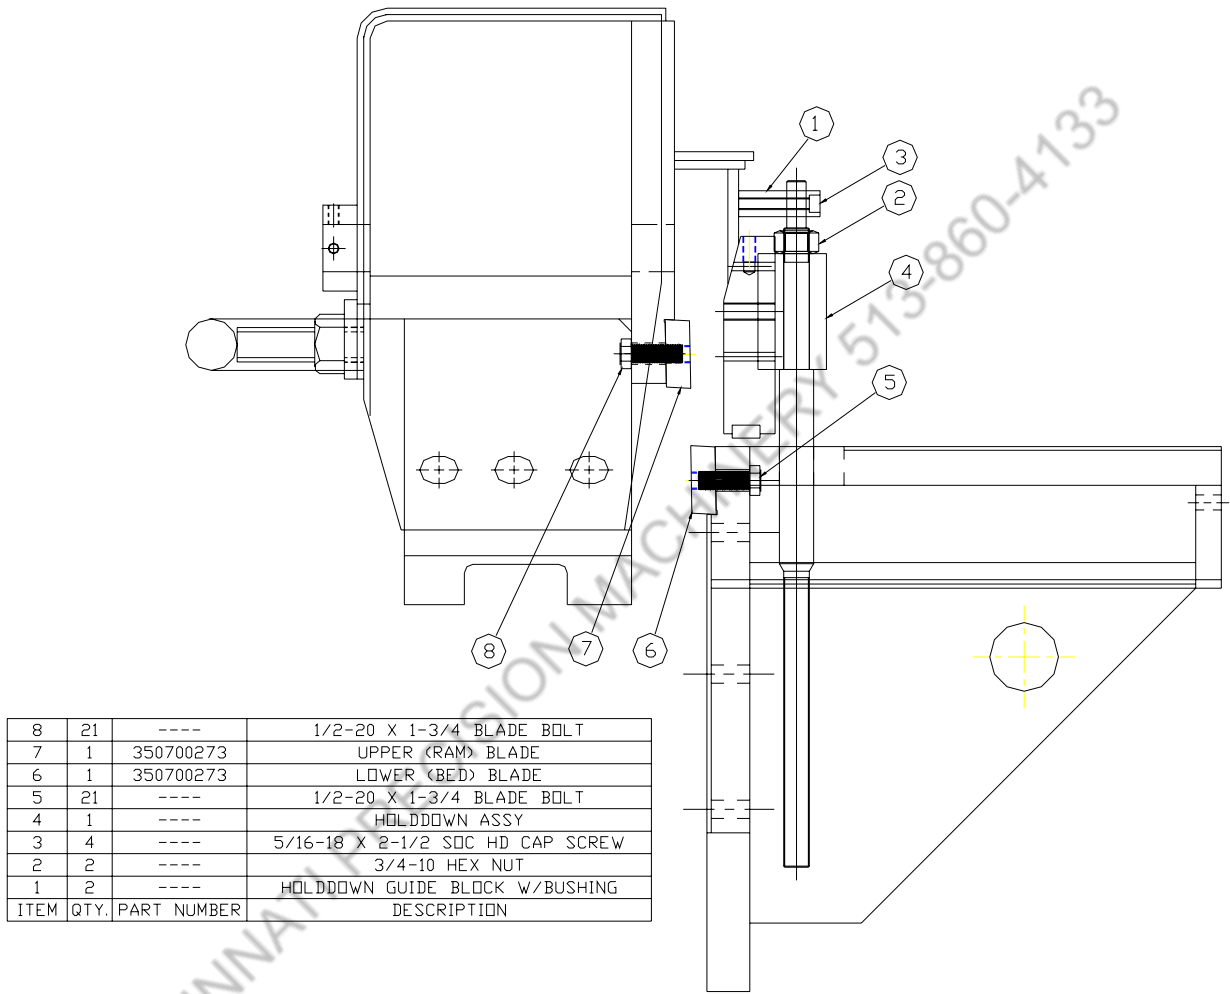

Figure 2
1. Turn on electrical power by first switching MAIN disconnect to "ON" and then pulling start button -- see APPENDIX , Figure 2. Be aware that the motor is not turned on -- but power is noted by the illuminated red light.
1. Refer to Figure 2.
5. Remove holddown assembly (item 4) --
- a. Remove two 5/16 x 2-1/2 socket head cap screws (item 2) at each end of the holddown assembly, and remove the two rod holders (item 1).
- b. Remove two hex nuts (item 3) -- one at each end of the holddown assembly (item 4).
- c. Thread a lifting-eye (3/8-16 thread) into the center of the holddown assembly, (item 4). Using an overhead or portable lift crane gently lift holddown assembly upward off of rods and set safely aside. The upper blade area is now exposed for servicing.
6. Remove and reposition upper blade (item 7) --
- b. Remove all blade bolts (21 each, item 8) from upper blade (item 7) by working from ends to the center.